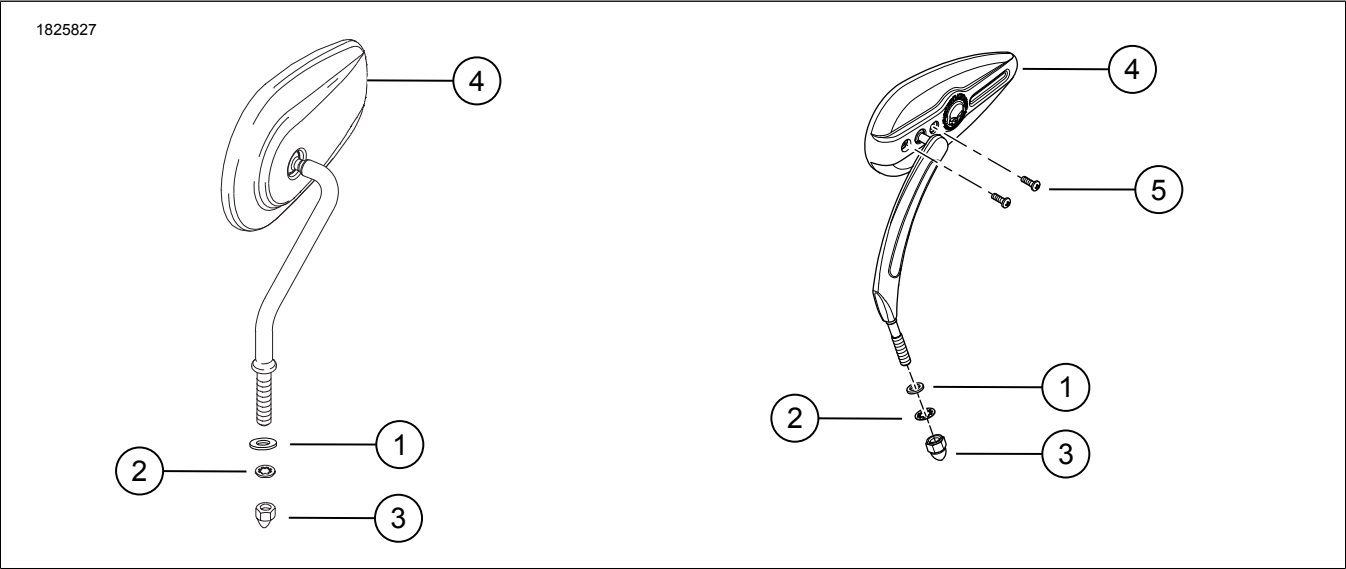

Figure 1. Kit Contents: Mirror Kits
1. See Figure 1. Install flat washer (1) on mirror stud (top position) for all mirrors except Part No. 91696-05A, 92398-09 and 92410-09.
2. **Vehicles with turn signals mounted to underside of hand lever housings (except 2004 and later XL models):** Secure left side mirror with lockwasher (2) and acorn nut (3) from kit.
3. Secure right side mirror with lockwasher (2) and acorn nut (3) from kit and turn signal retainer only.
- a. Secure mirrors with flat washers (1) in top and bottom positions, lockwashers (2) and acorn nuts (3) from kit.
- a. See Figure 1. Incrementally torque adjustment screws (5) as required. Tighten.